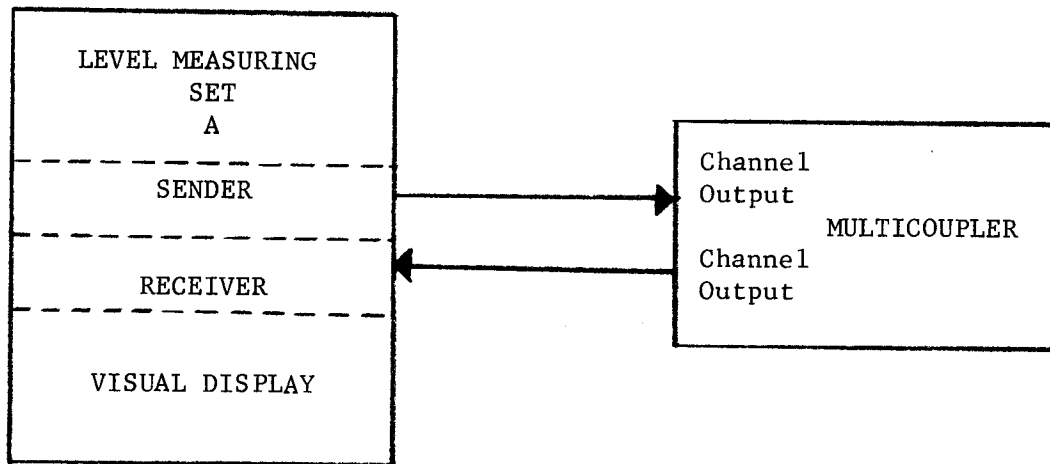

FIGURE 2.1B
6. Connect the equipment as indicated in Figure 2.1B.